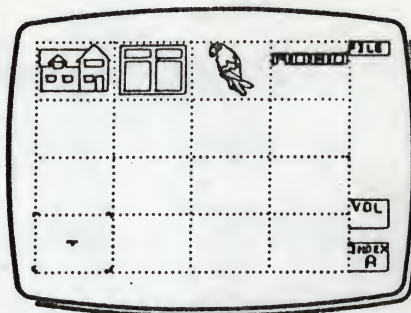

Fig 1
- 2 Move XY to select FILE from the Menu, then press and release L to confirm. The Work Page will be replaced by the LIBRARY INDEX, which looks like a mosaic of miniature pictures in boxes (see Fig 1). The cursor changes to to an outline framing a box. Notice that the volume number and index page letter are shown for identification.